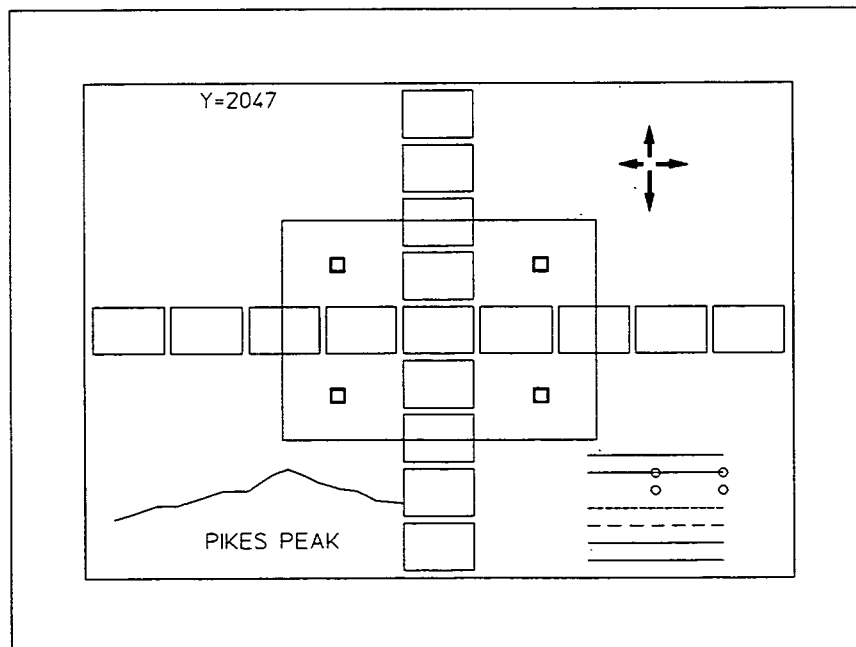

Figure 3-1. Test Pattern
2. Observe the test pattern on the display. Verify that the display is legible and is centered on the screen. The corners of the outer rectangle should not have any gaps or extended lines. The sides of the smaller boxes in the display should be parallel with each other. In the lower right section of the display, 6 lines should be visible plus one row of two dots. Finally, the four smallest rectangles should have sides that are approximately equal in brightness. The test pattern should look similar to figure 3-1.